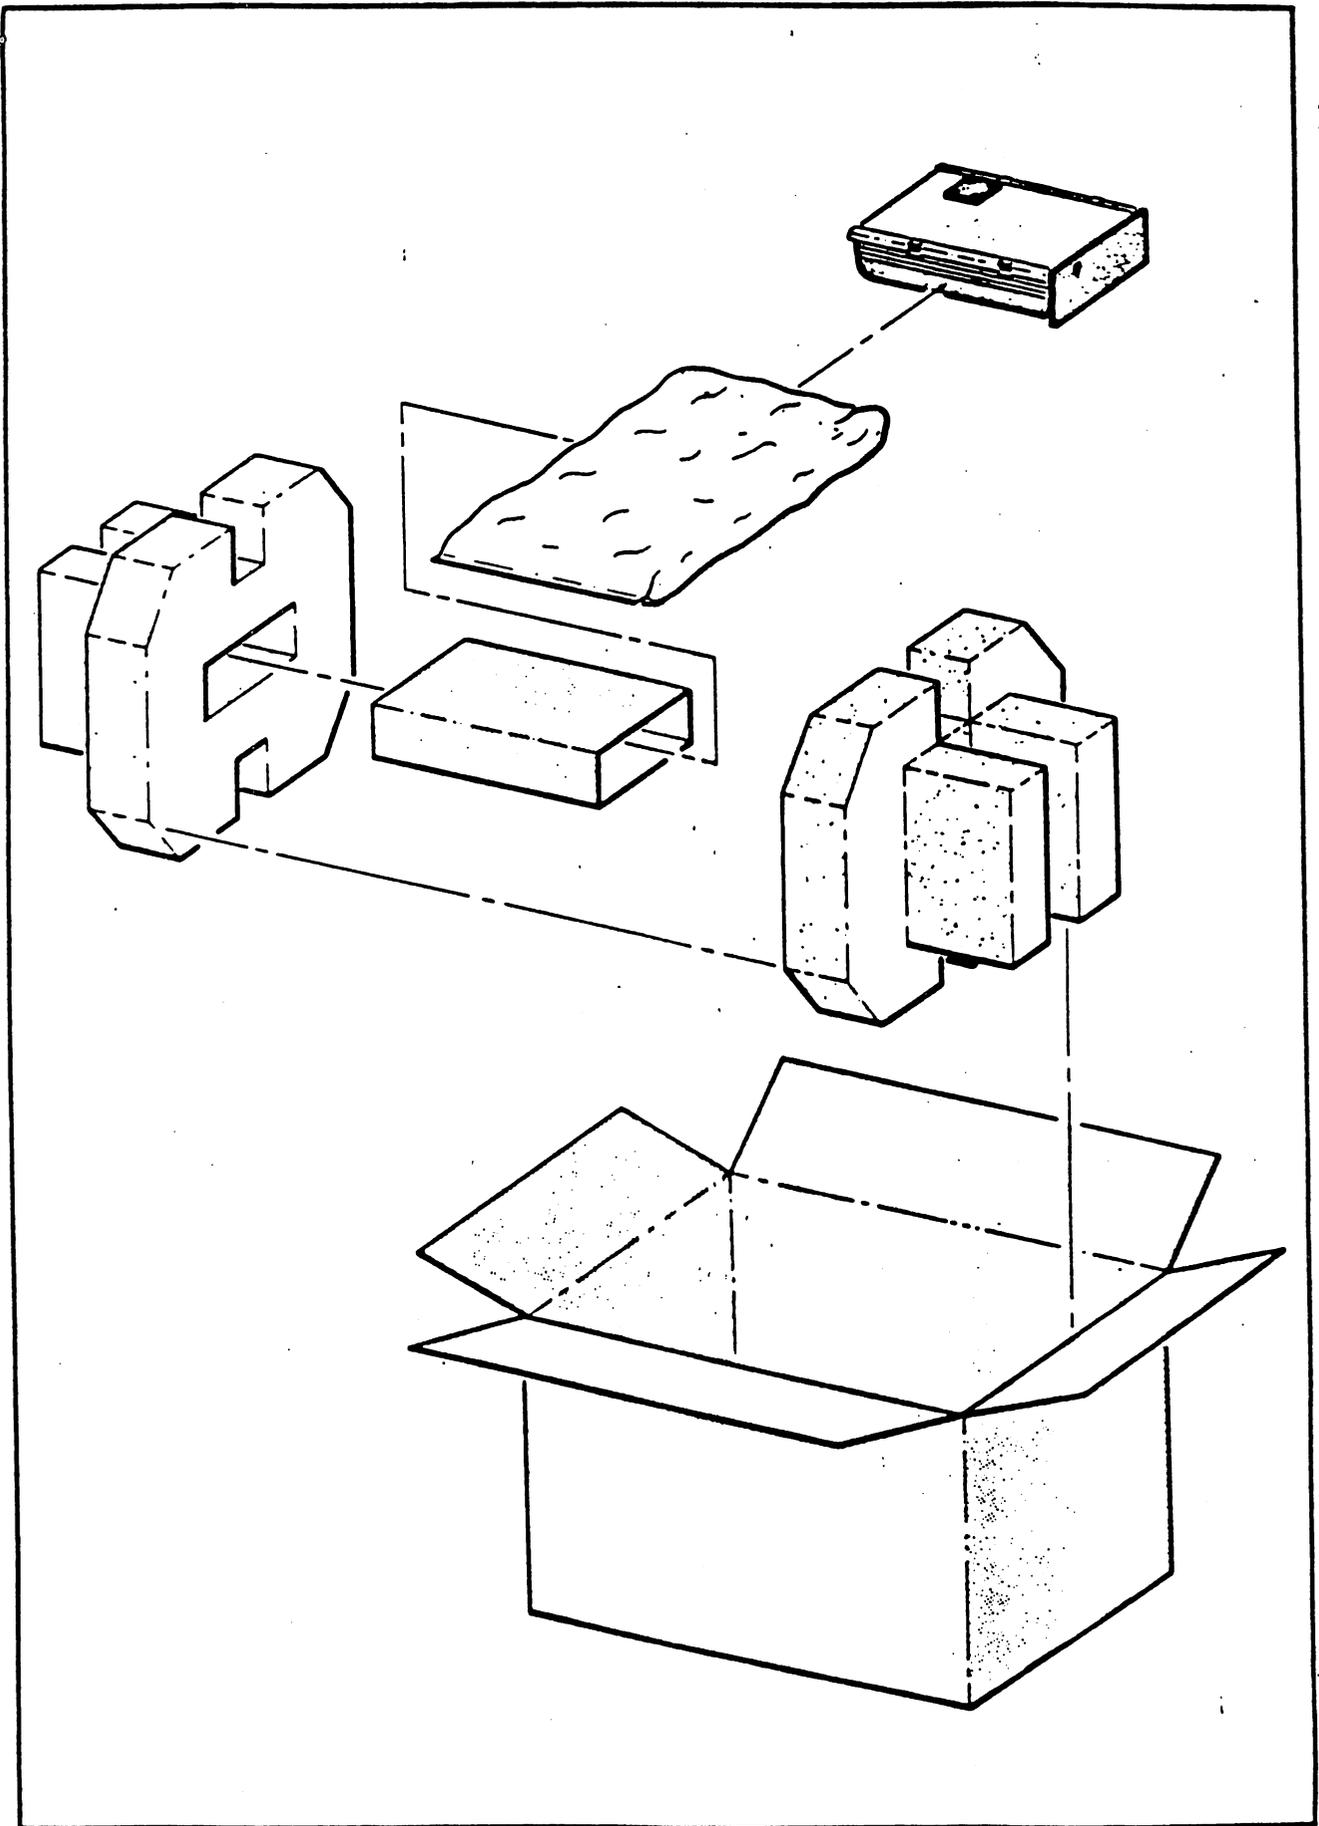

FIGURE 9-1. SINGLE UNIT PACKAGING CONFIGURATION
- a. A single unit in a single carton (figure 9-1).
Each unit is individually protected as shown in figures 9-1 and 9-2.